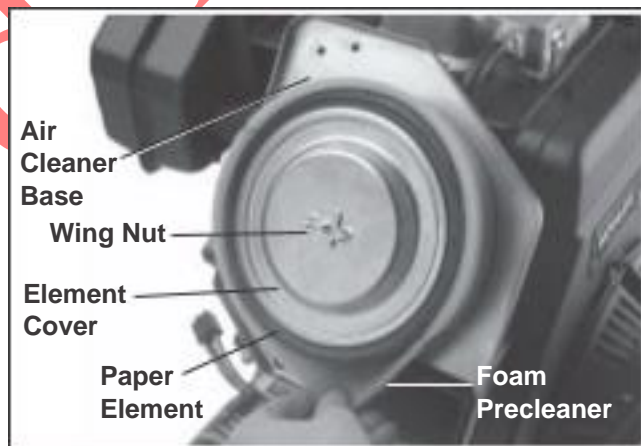

Figure 9-5. Removing Air Cleaner Elements.
2. Remove the wing nut, washer, element cover, element and precleaner. See Figure 9-5.